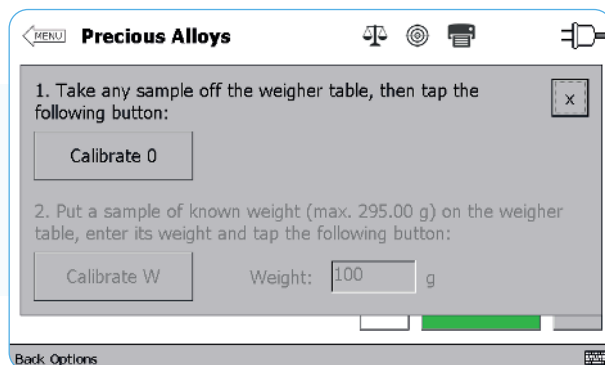

Fig. 28. Weigh-scales calibration window
1.	Open the device lid. If the weigh-scales window does not open, tap the touch  button at top of the screen. In the weigh-scales window, tap the Calibrate button. Calibration of the weigh-scales is considered to be a protected function, so the programme will ask the password. Enter xrf and tap the Login button. A new window opens with the calibration instructions (fig. 28).